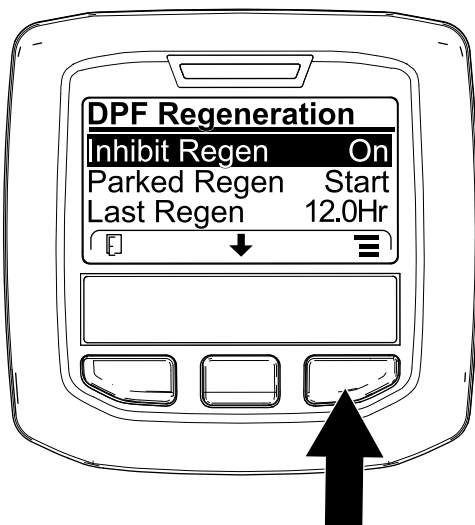
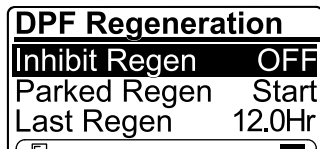

Figure 13
Figure 14
1. Access the DPF Regeneration menu, press the center button to scroll down to the INHIBIT REGEN option, and press the right button to select the Inhibit Regen entry (Figure 13).
2. Press the right button to change the inhibit regeneration setting from On to Off (Figure 13) or from Off to On (Figure 14).